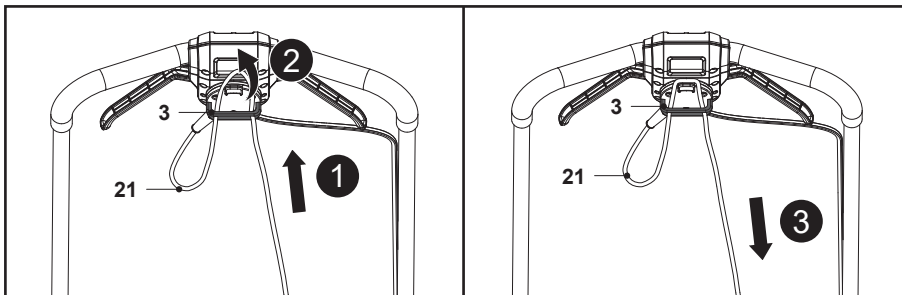

Fig. 8
1. Double the power cord (21) back, about 30 cm from the power guard and lead the loop through the hole of the cord retainer (3) and hang the loop over the hook (Fig. 8, steps 1, 2).
2. Pull the power cord (21) over the cord retainer (3) and gently tug on the power cord (21) to ensure that it is firmly secured (Fig. 8, step 3).